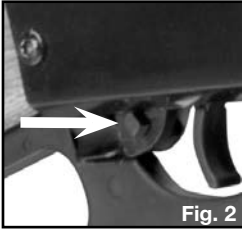

Fig. 2
- Push the safety from the left side all the way in (Fig. 2). The safety is not “ON SAFE” unless it is pushed all the way in and the RED ring around the safety is NOT showing.